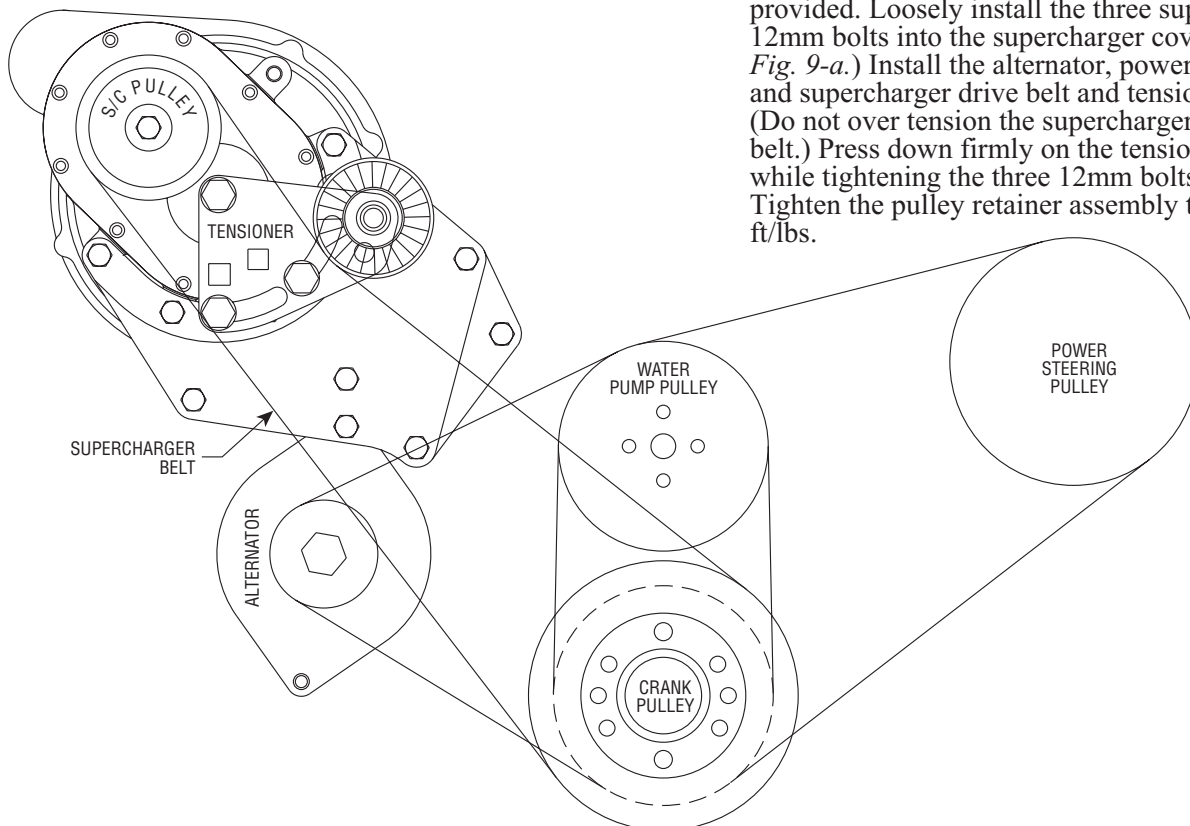

Fig. 9-a / Passenger Side Supercharger Belt Routing (Driver Side Similar)
- E. Install the belt tensioner plate onto the supercharger cover with the idler and spacer mounted on the front side in one of the holes provided. Loosely install the three supplied 12mm bolts into the supercharger cover. (See Fig. 9-a.) Install the alternator, power steering and supercharger drive belt and tension each. (Do not over tension the supercharger drive belt.) Press down firmly on the tensioner idler while tightening the three 12mm bolts. Tighten the pulley retainer assembly to 30-35 ft/lbs.